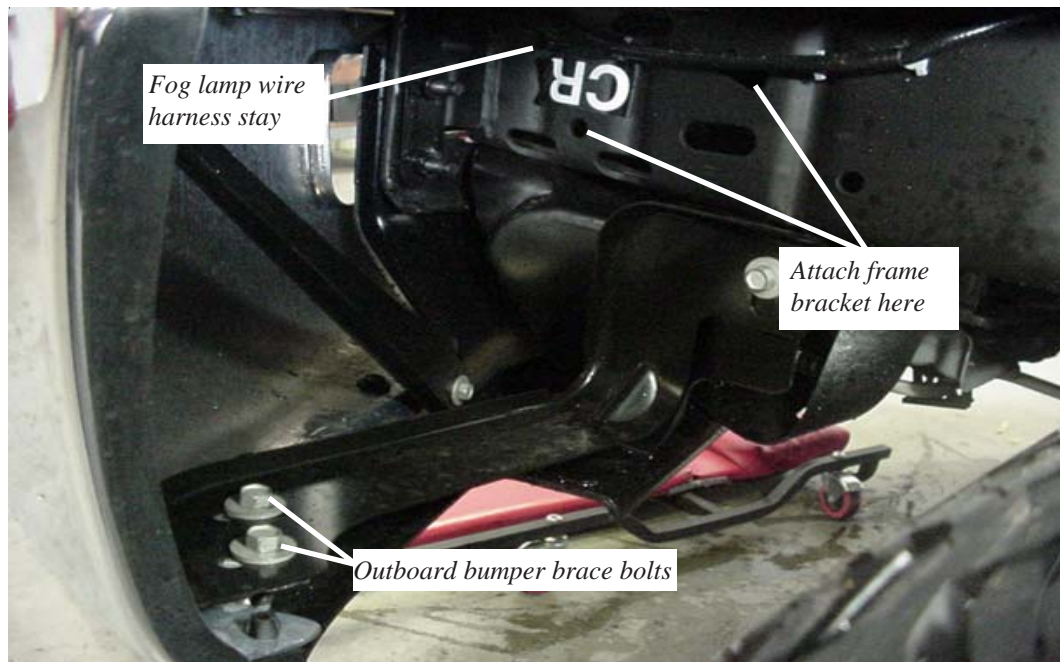

Figure 1 - Inside left fender
2. Remove the outboard bumper brace bolts from both ends of the bumper. **Figure 1.**
6. Carefully remove the fog lamp wire harness stay pressed into the LH frame rail. Slide the LH Bracket Assembly (from step 5) under the fog lamp harness. Use 5/8" and 1/2" hardware to attach both LH and RH Bracket Assemblies to the vehicle frame using the holes shown in **Figure 1**. Slide the Bracket Assemblies as far forward as possible and tighten the hardware. Press the fog lamp wire harness stay into the small hole in the LH Frame Bracket. **Figure 4.**